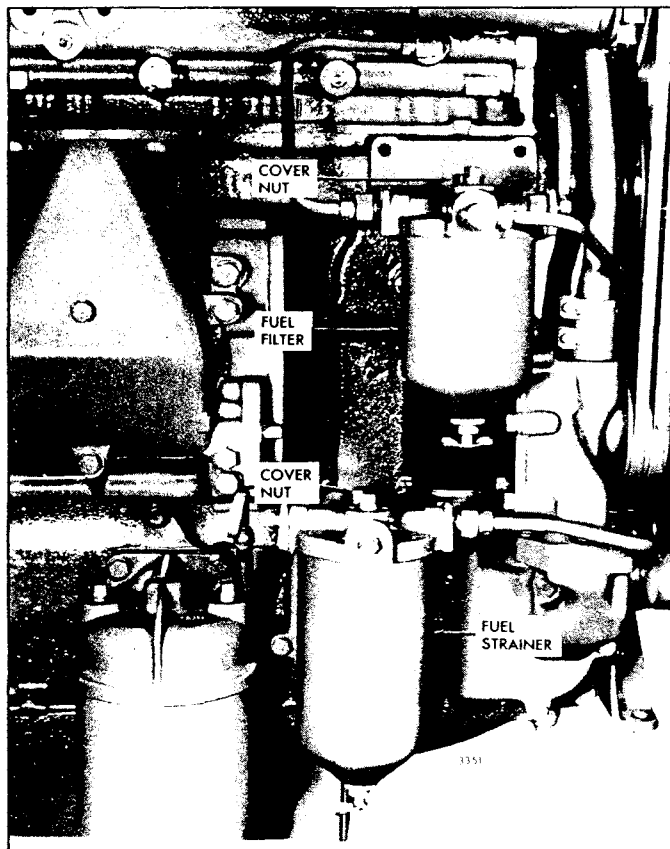
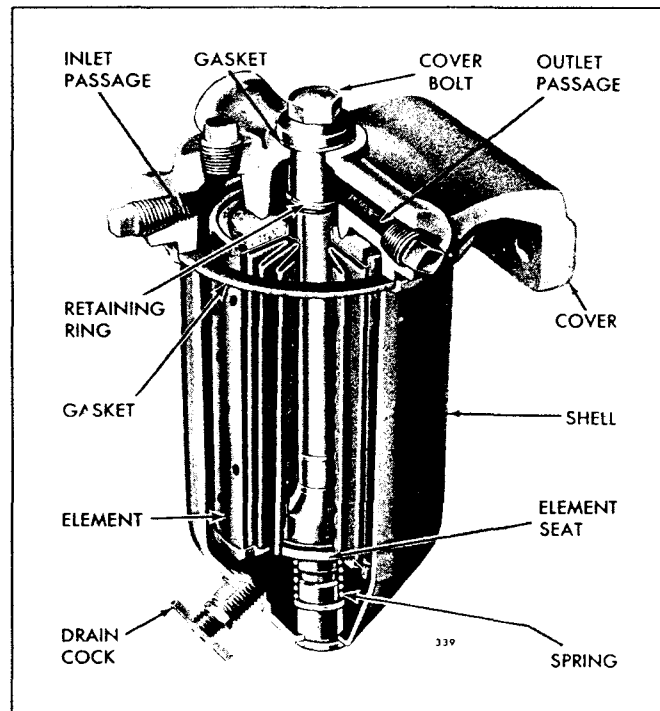

Fig. 1 - Typical Fuel Strainer and Fuel Filter Mounting
Fig. 2 - Fuel Filter Assembly
- A fuel strainer (primary) and fuel filter (secondary), Fig. 1, are used to remove impurities from the fuel. The fuel strainer is located between the fuel tank and the fuel pump. The replaceable density-type element is capable of filtering out particles of 30 microns (a micron is approximately .00004"). The fuel filter is installed between the fuel pump and the fuel inlet manifold. The replaceable paper-type (cellulose) element (Fig. 2) can remove particles as small as 10 microns. Fiberglass elements can remove particles as small as 5 microns.